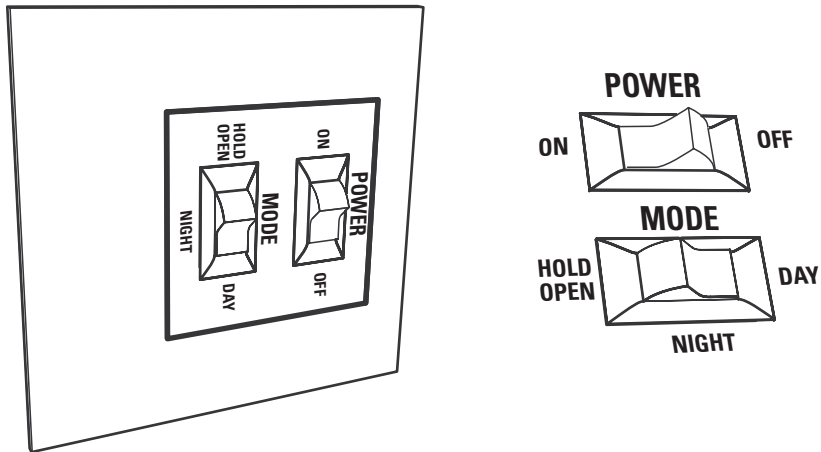

Figure 1.19 Power and mode switches shown set to normal operation
1. Turn the unit on by pushing the lighted switch to the ON position. See Figure 1.19.